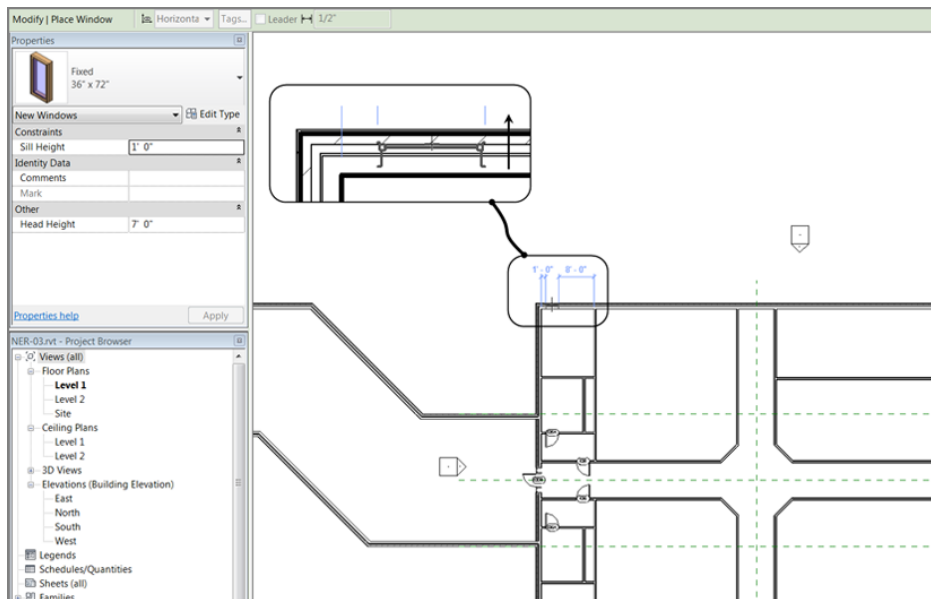

FIGURE 2.78: Depending on which side of the wall your cursor is on, you can add a window to the correct orientation.
3. Add the window to the corner of the building, as shown in Figure 2.78. Be careful with the placement. If your cursor is toward the exterior of the wall, the window will be oriented correctly and the window tag will appear on the outside of the wall.